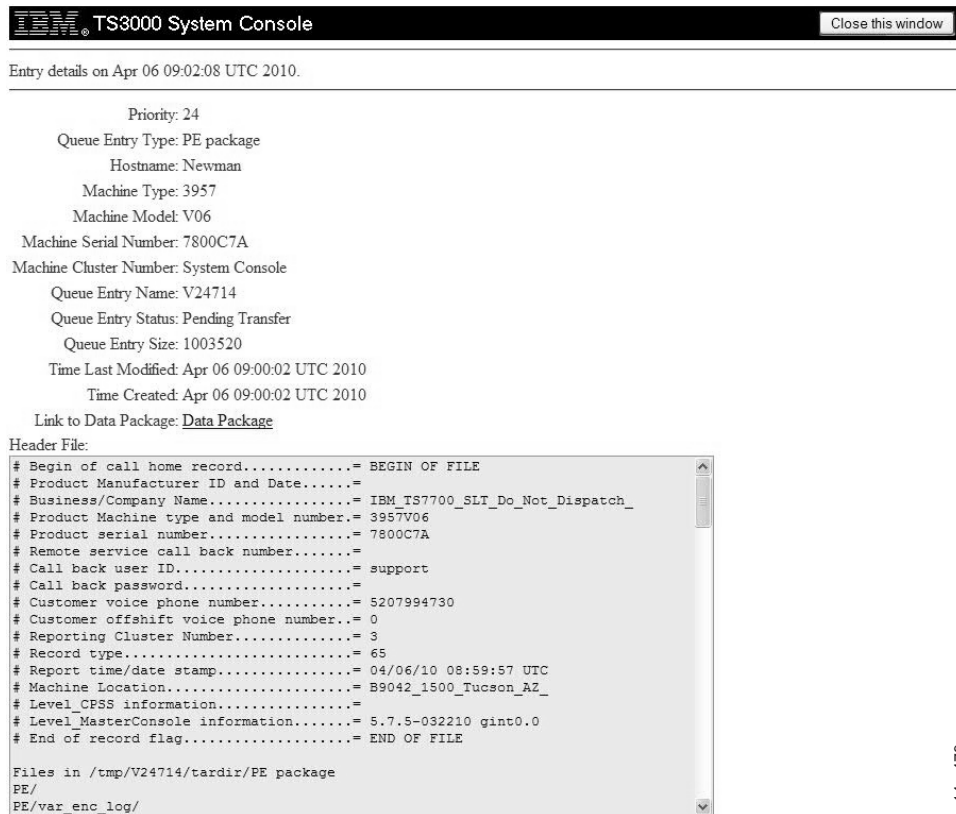

Figure 3-29. Call Home Queue Management – Call Home Queue Entry Details
6. Click **Show Selected Entry Details**. Figure 3-29 on page 3-25 displays.